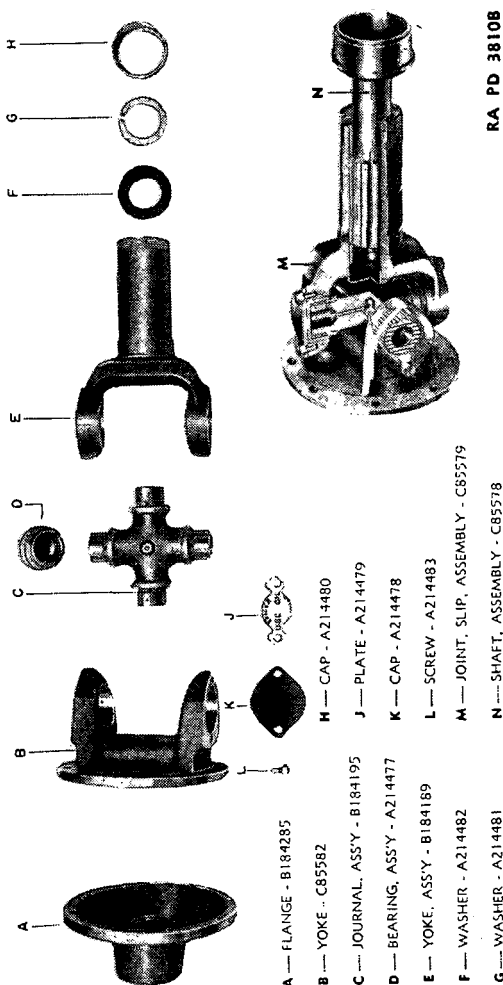

FIGURE 74.—Rear axle propeller shaft, exploded.
(4) Disassemble opposite universal joint. Follow steps (1) through (3) above.
(5) Remove slip joint. Unscrew dust cap (A160305) and pull slip joint (C85575) from shaft splines.
(6) Remove dust cap—screw driver. Lift cork washer (A160310) and split steel washer (A160309) out of cap, and slip cap over shaft splines (fig. 74).
b. Rear axle (jackshaft) propeller shaft (fig. 74).—Tools: $\frac{1}{2}$ -inch socket wrench, brass drift, hammer, screw driver.
(1) Remove bearing caps—screw driver, $\frac{1}{2}$ -inch socket wrench. Bend down locking tabs on lock plate (A214479) with a screw driver. Remove two cap screws (A214483) holding each bearing cap (A214478) and lock plate, and remove plates and caps.
(2) Disassemble remainder of shaft. Follow steps (2) through (6) in *a* above.